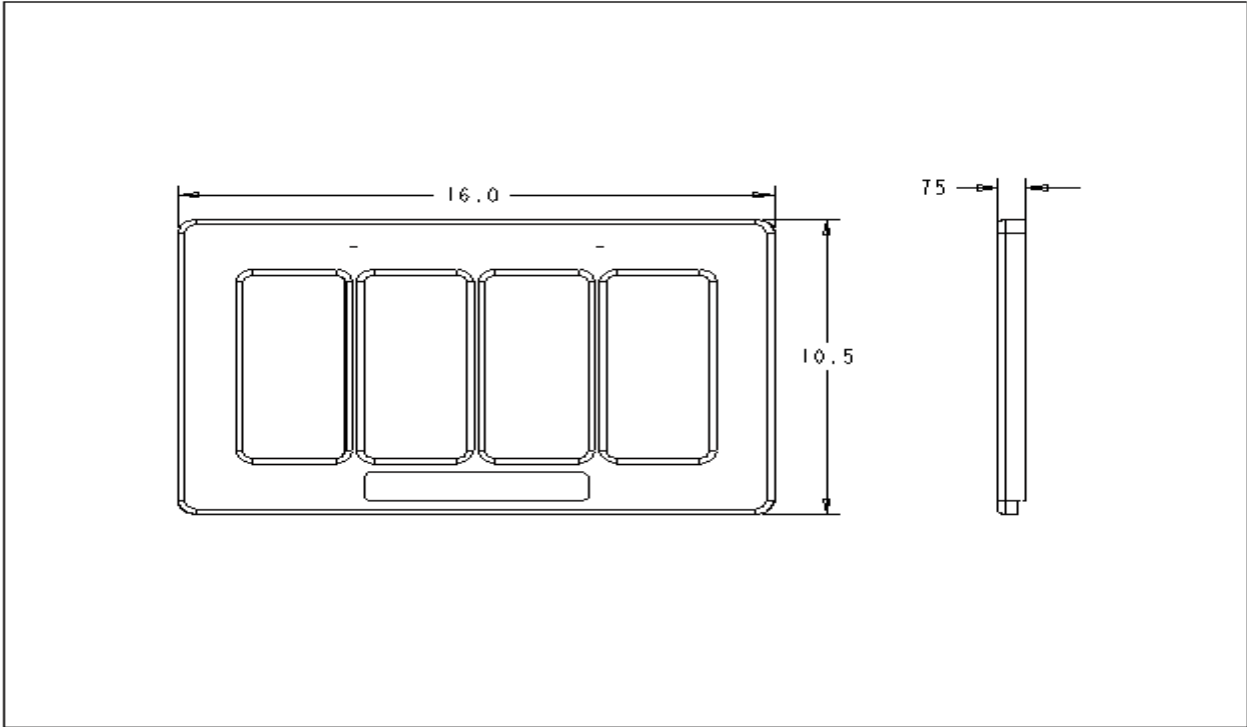

Figure 6, 3-Module, Front Panel
3.2.1.1 The first front panel (Figure 6) is 16.0 inches long and will accommodate one Control Module and three other modules.